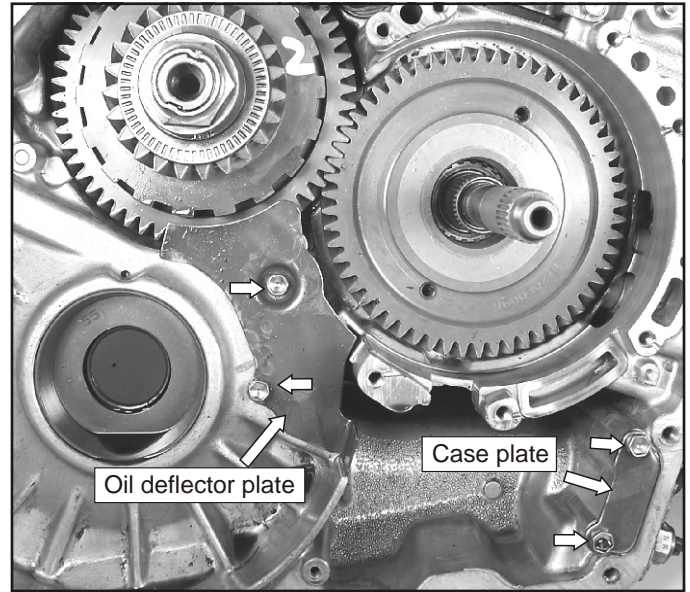

Figure 52
12. Remove the 2, 10mm headed oil deflector plate retaining bolts and the 2, 10mm headed case plate retaining bolts as shown in Figure 52. **Note the bolt lengths are 13mm long.**